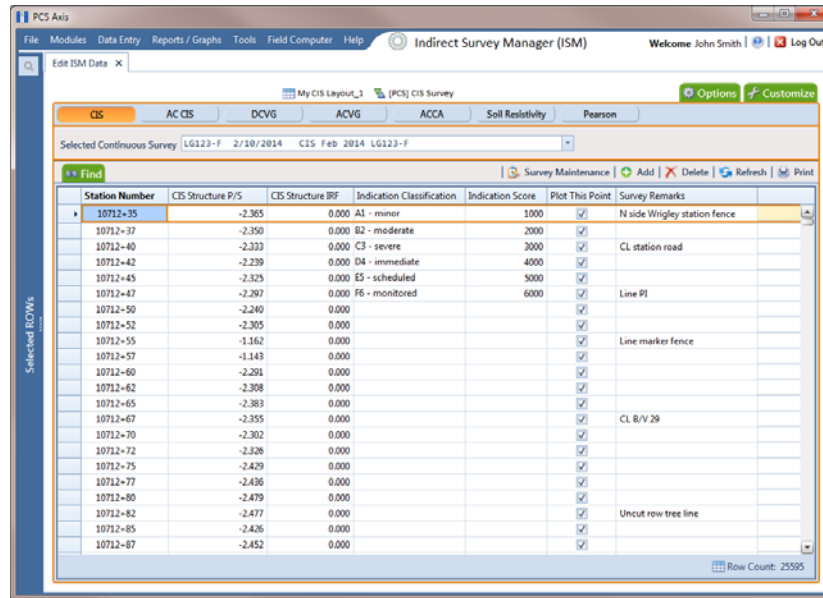

Figure 7-73. Edit ISM Data
- 3 Click **Data Entry > Edit ISM Data** to open the ISM data entry grid. Then click the **CIS** button  to work with a close interval survey (Figure 7-73, page 288).